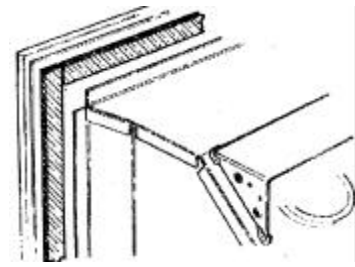

Figure 1 Foam seal position
- Place the adhesive foam seal to the rear of the appliance frame ensuring full contact with the fireplace opening. See figure 1.